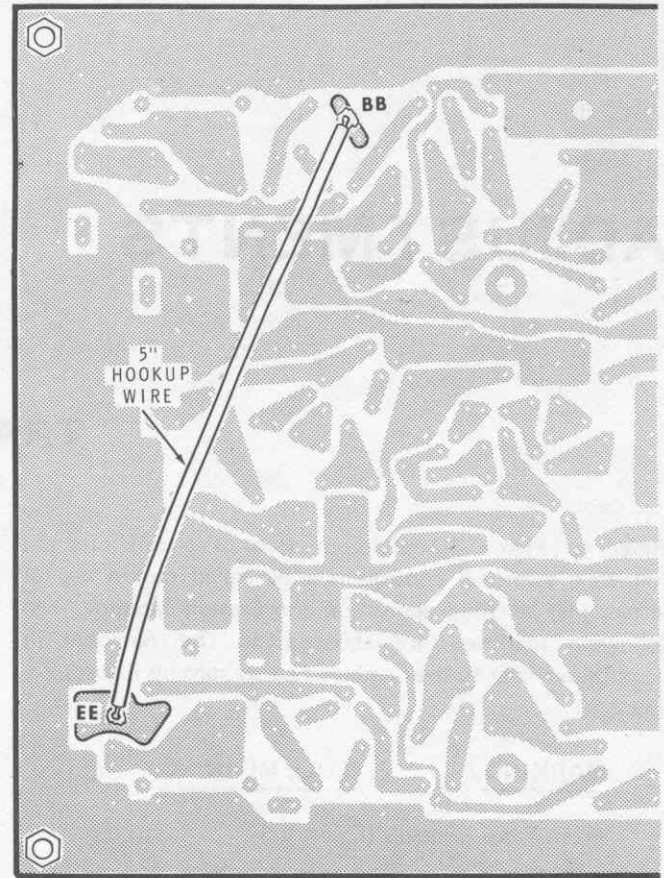

Figure 2-4
- () Refer to Figure 2-4 and temporarily connect a 5" length of hookup wire from EE to BB (Marked on the top of the board) on the foil side of the main circuit board as shown.